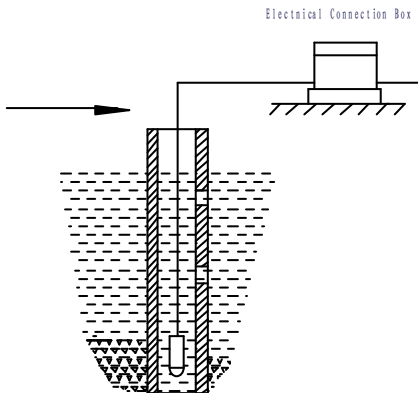

Fig. 4
- a) Inserting steel pipe in the water channel , The steel pipe should be thicker, and several little holes should be made at different heights of the pipe to damp wave and reduce water moving effect. (to see Figure 4 )